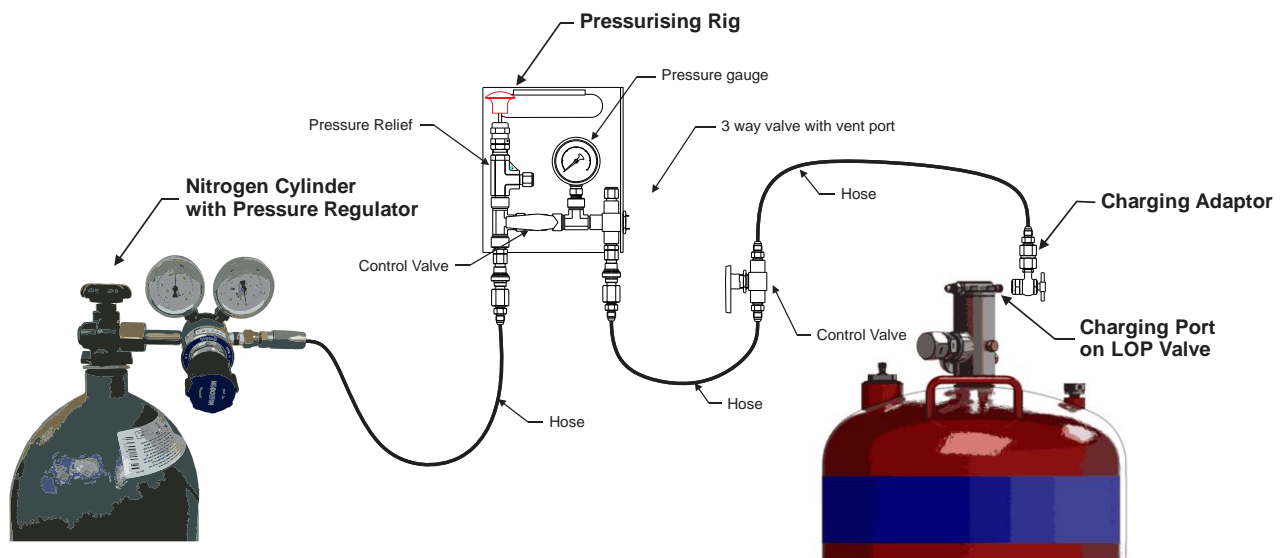

Figure 7 – Typical Pressurising Rig
3. Connect a regulated source of nitrogen through an approved charging rig (refer Figure 7) to either: